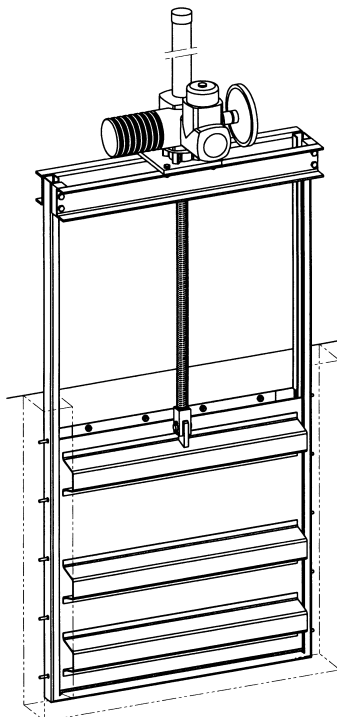

Fig. 9
- Position sluice gate in respective recess and align with plumb and level acc. Fig. 9.